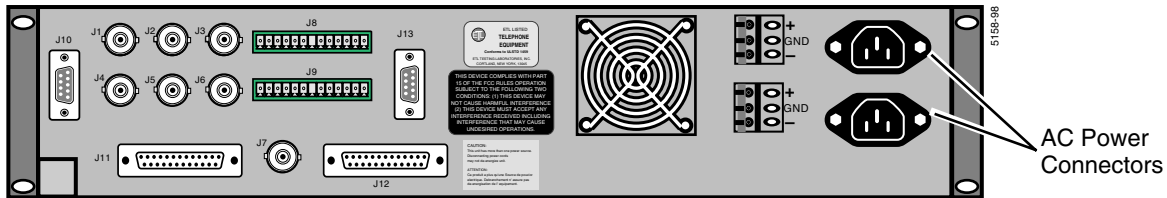

Figure 2-11. AC Power Connector for the 2 RU Frame
3. The AC power supply for the 2 RU frame is auto-ranging. The unit will adjust itself automatically for 100 or 220 VAC. Simply plug the unit into the appropriate power source, and the selection is made. See Figure 2-11 for the AC power connector location. Do not apply power until the remainder of the cabling has been completed.